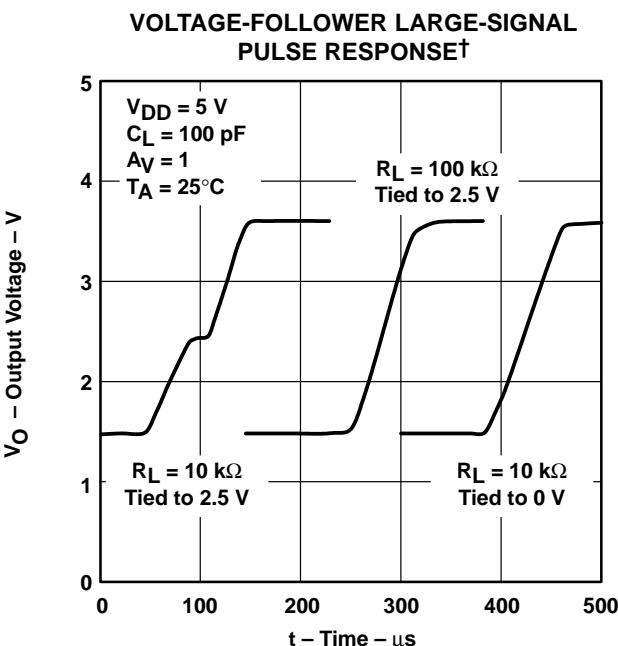

Figure 38
- Where the load is referenced. When the load is referenced to either rail, this condition does not occur. The distortion occurs only when the output signal swings through the point where the load is referenced. Figure 38 illustrates two 10- $k\Omega$ load conditions. The first load condition shows the distortion seen for a 10- $k\Omega$ load tied to 2.5 V. The third load condition shows no distortion for a 10- $k\Omega$ load tied to 0 V.
- Load resistance. As the load resistance increases, the distortion seen on the output decreases. Figure 38 illustrates the difference seen on the output for a 10- $k\Omega$ load and a 100- $k\Omega$ load with both tied to 2.5 V.